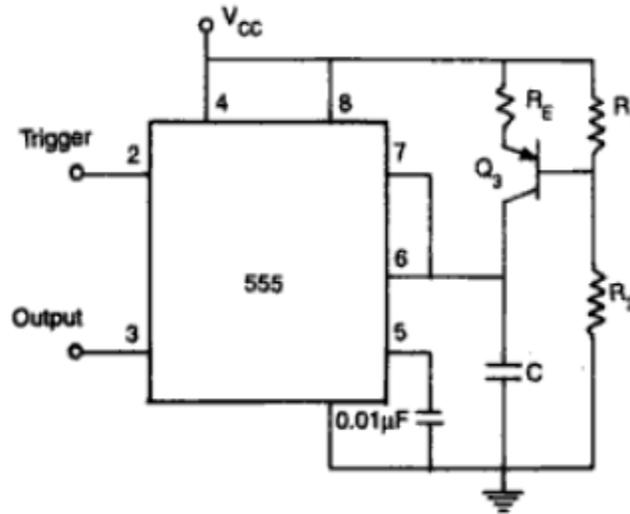

Figure 10: Linear ramp generator
- Linear ramp can be generated by the circuit shown in Fig. 10. The resistor R of the monostable circuit is replaced by a constant current source.